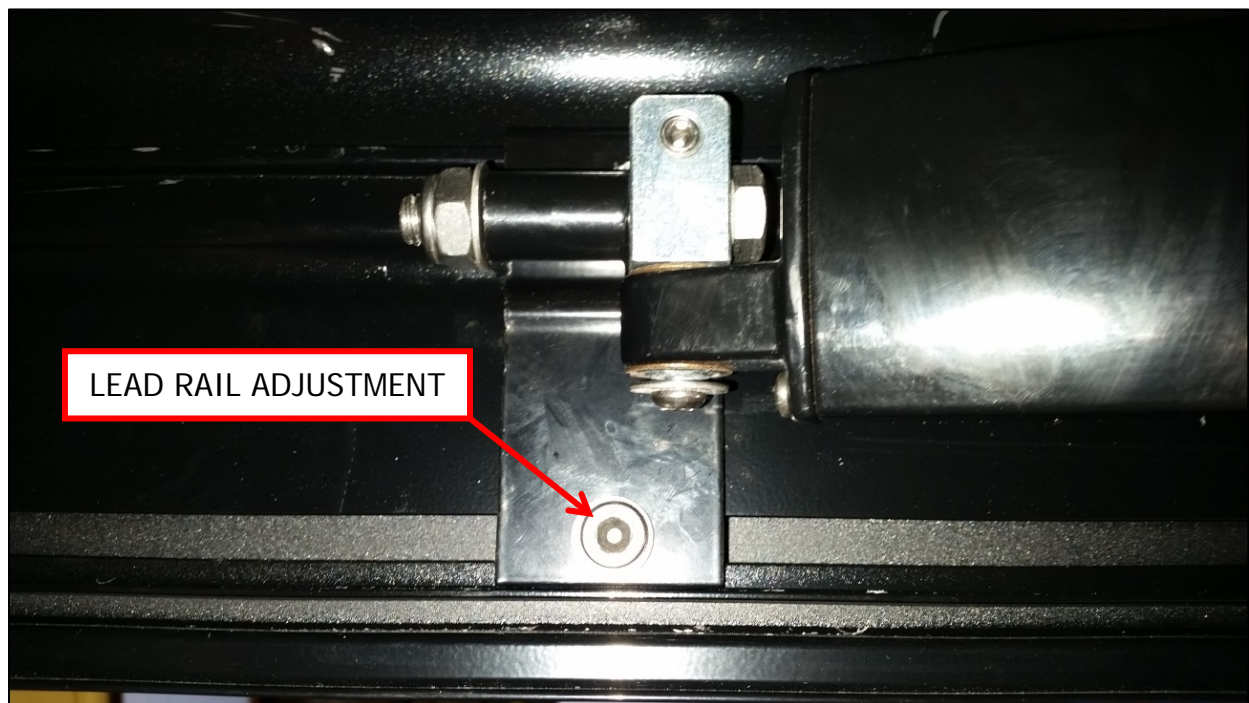
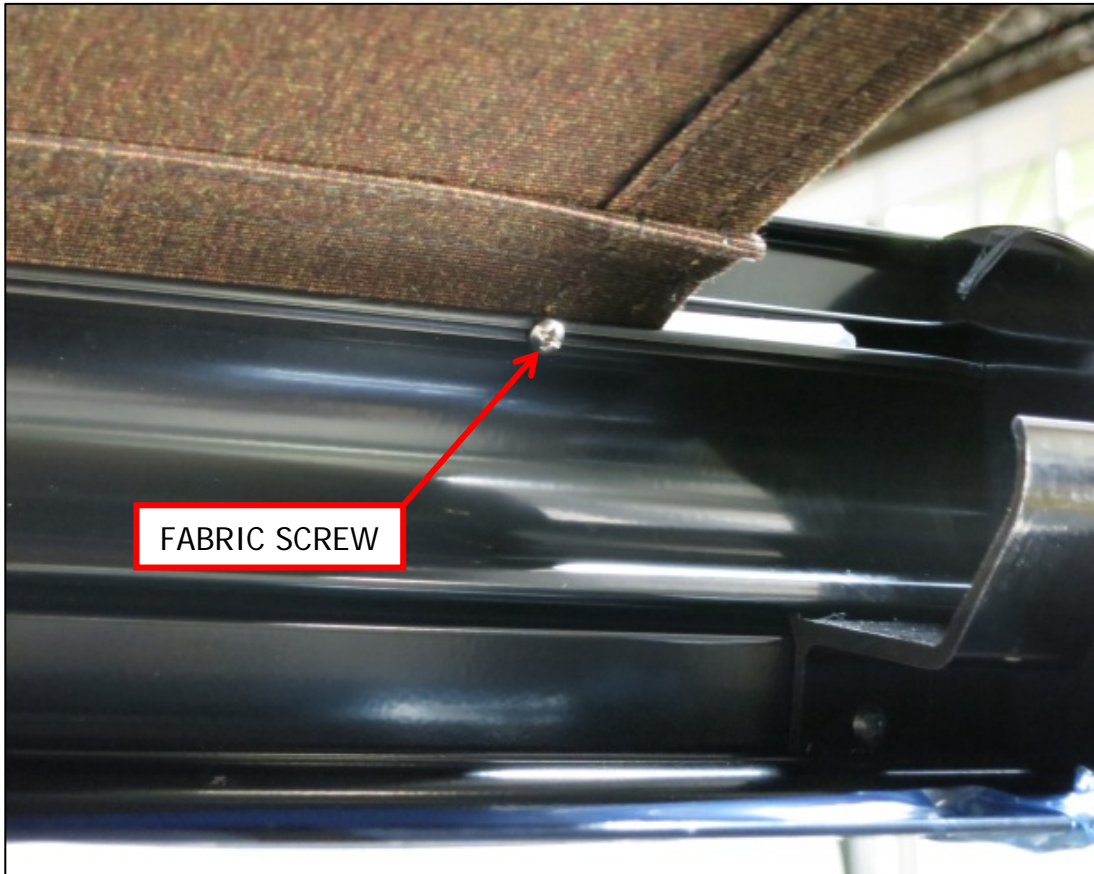

Fig.9
Fig 10
- When proper alignment has been achieved tighten the lead rail adjustment screws (Figure 9), and then replace the fabric screws. (Figure 10)